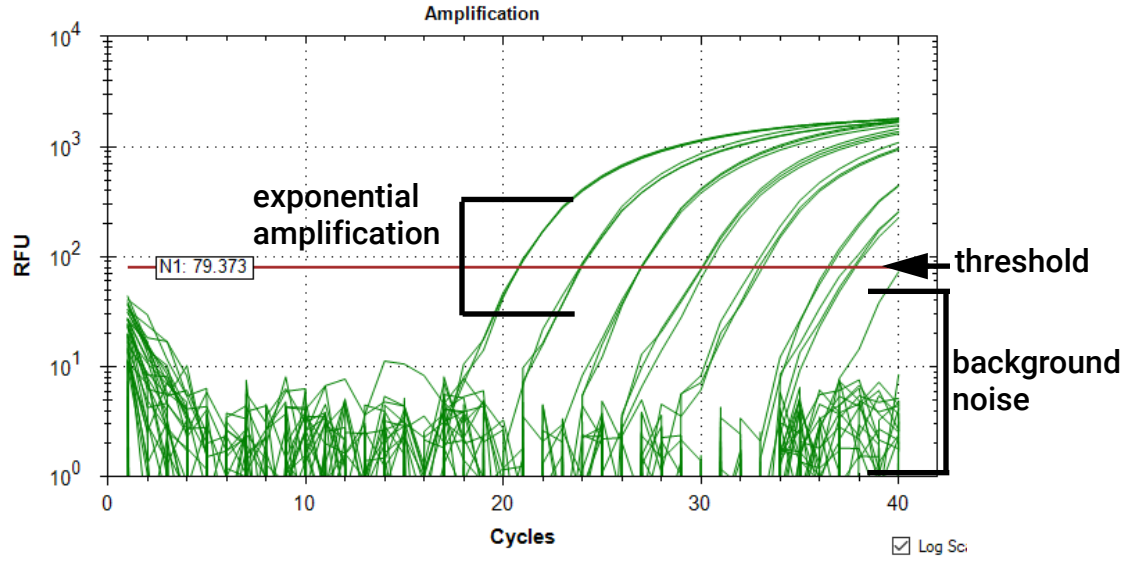

Figure 35 Maestro Amplification graph for N1 target
- b Determine if the threshold is both high enough to be above the background noise and low enough to include plots in the exponential amplification phase (refer to **Figure 35**). Based on this determination, proceed as directed in **Table 15**.